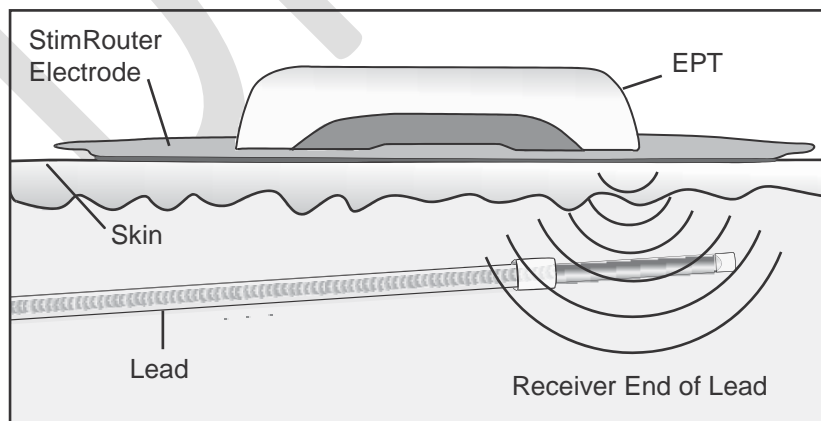

Figure 6-10. Optimal stimulation, position of the StimRouter electrode. (Illustration not to scale.)
- Align one end of the StimRouter electrode with EPT attached directly over the receiver end of the lead. If the StimRouter electrode is not directly over the receiver end of the lead, then stimulation may be uncomfortable or ineffective. See Figure 6-10. The effectiveness of the stimulation is sensitive to the alignment and rotation of the StimRouter electrode in relation to the receiver end of the lead. If the alignment or rotation of the StimRouter electrode changes, the stimulation intensity may need to be adjusted.